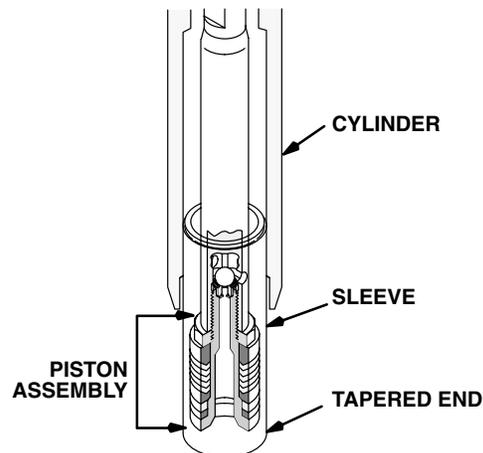

Fig 26 0084
And then slide the sleeve/piston rod assembly **INTO THE BOTTOM OF THE CYLINDER**. This procedure helps prevent damaging the packings during reassembly. See Fig 26.
**NOTE:** The tapered end of the sleeve is the bottom of it. Do not install it upside down. See Fig 26.